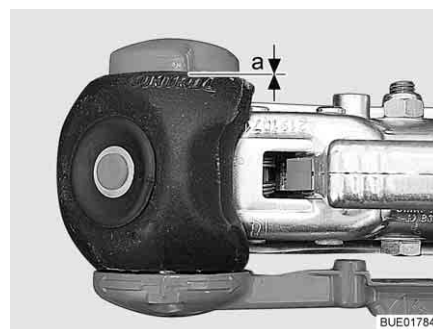

Fig. 209 Friction control
- Distance $a = 0$ (Fig. 209): Check and, if necessary, replace the friction pads.